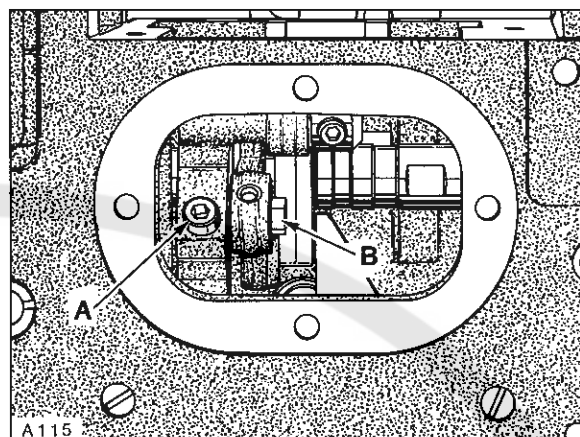

Fig. 14
Loosen Allen screw (A, Fig. 14) and turn eccentric (B) while rotating handwheel in operating direction to obtain equal clearance in throat plate, front and rear. Tighten screw (A) securely.